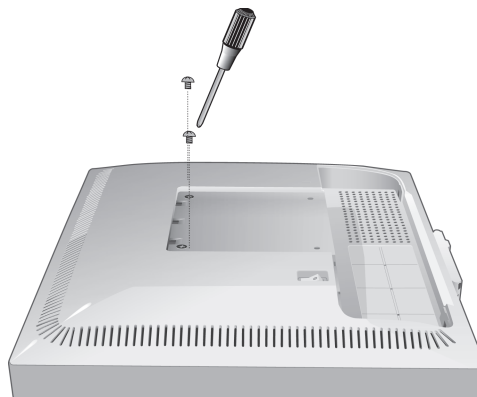

Figure M.5
6. Remove the 2 screws on the top of the monitor (**Figure M.5**). The monitor is now ready for mounting in an alternate manner.